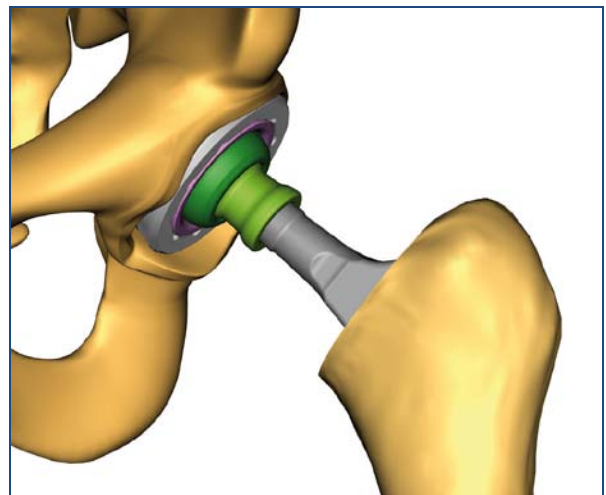

fig. 3: Trial System in reposition
- Repositioning of the joint (fig. 3)